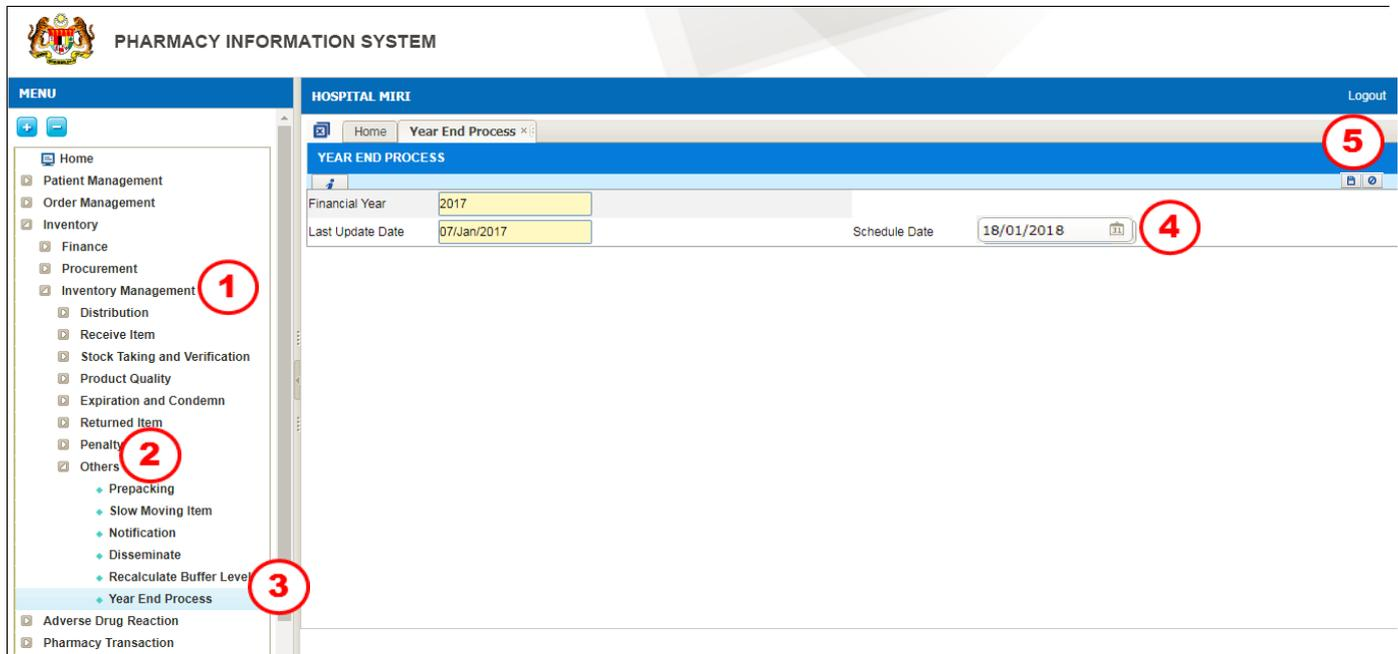
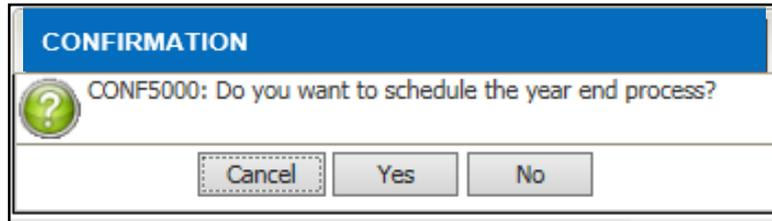

Figure 3.1-1 Year End Process
Figure 3.1-2 Message information to confirm transaction
- Message Information as displayed in Figure 3.1-2 will be displayed once user click on the  button in Figure 3.1-1.